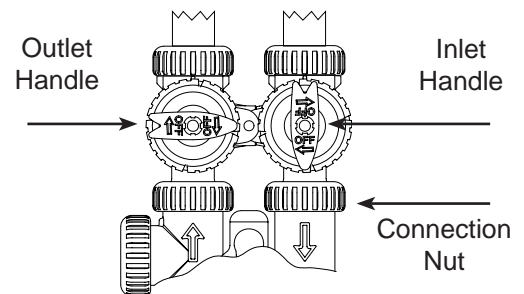

figure 3
12. Carefully turn water on to the system, open just the inlet valve handle on the bypass. *see figure 3*
*see figure 3*